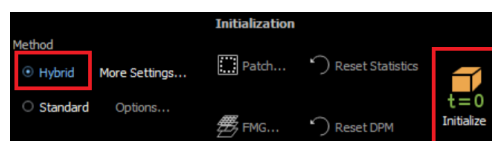

Figure 56: Initialization task in Fluent.
5. Before launching the calculation we have to *initialize* the solution: check that, in the *Initialization* group, the selected method is *Hybrid*, and click the *Initialize* icon () as shown in figure 56. After the initialization is completed - it will take around ten iterations - we are ready to start the calculation.